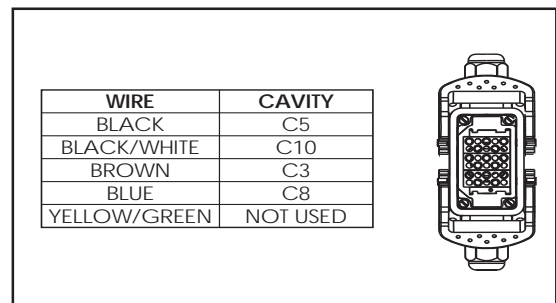

Figure 5-41. Control Cable Connector Wiring
9. Install the limit switch wires to control cable male connector. See Figure 5-41 for wiring information.